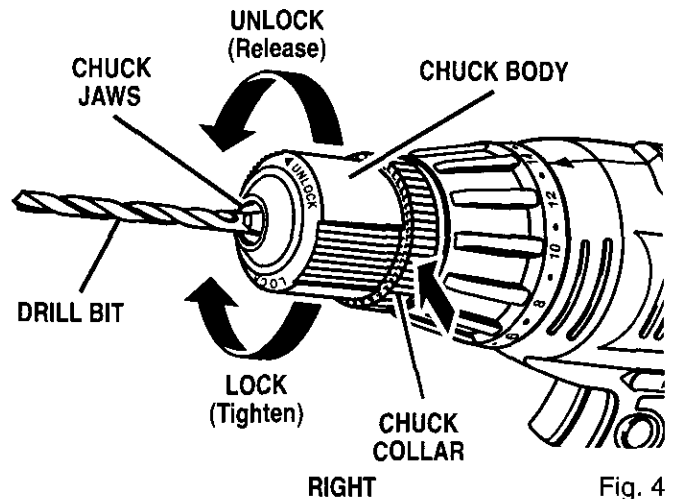

Fig. 4
See Figure 4.
■ Insert drill bit straight into chuck the full length of the jaws as shown in figure 4.